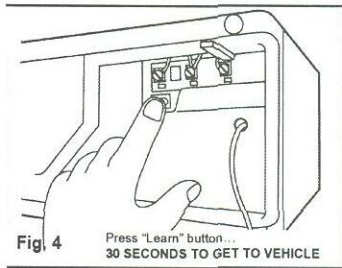

Fig. 4
8. Firmly press and release the "learn" or "smart" button. **Fig. 4**